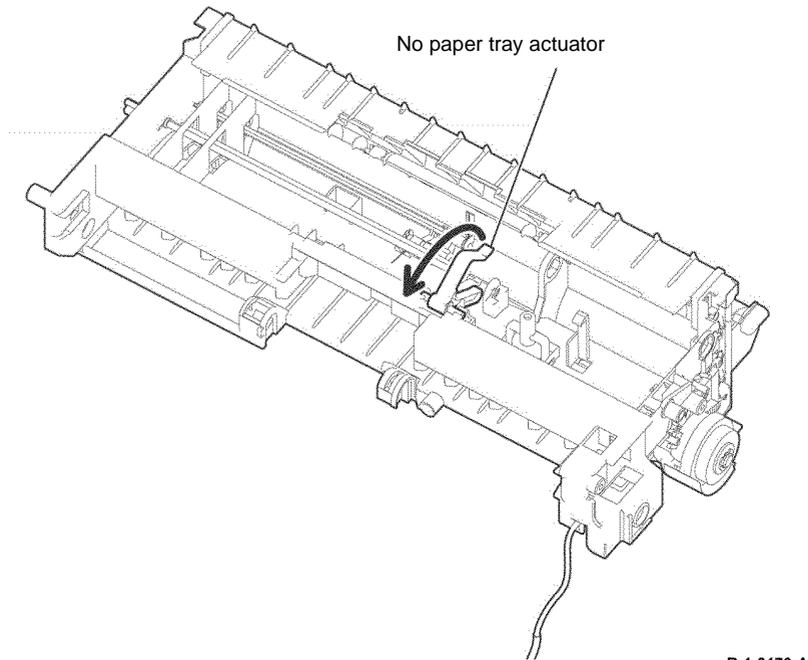

Figure 2 Feeder assembly installation
2. When installing the feeder assembly, ensure that the no paper tray actuator, is positioned as shown in Figure 2.